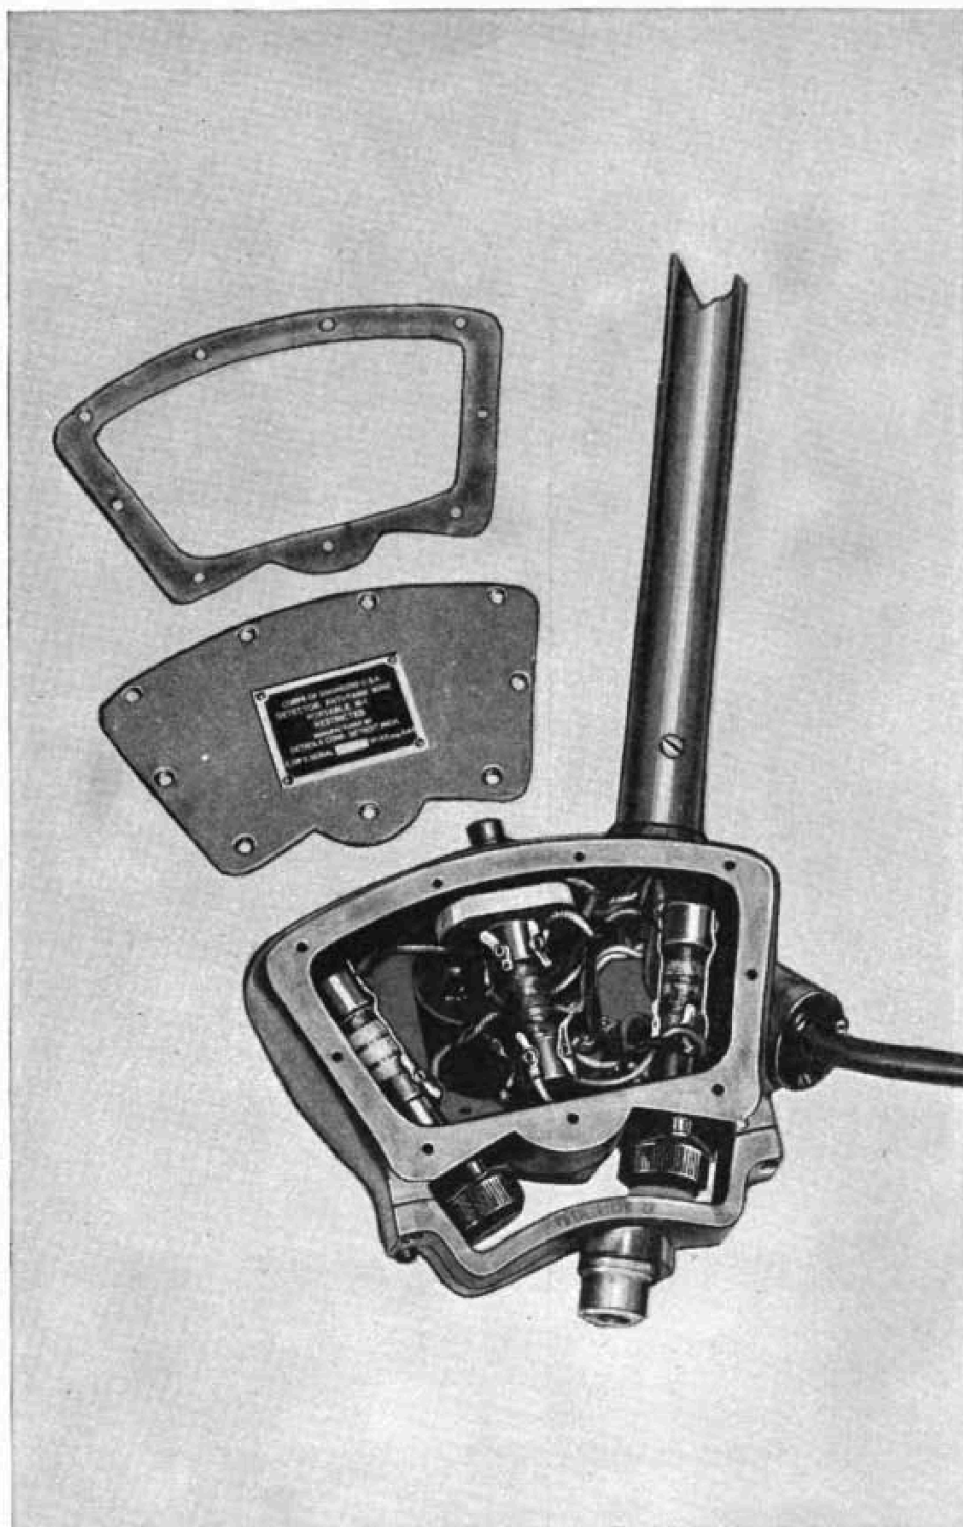
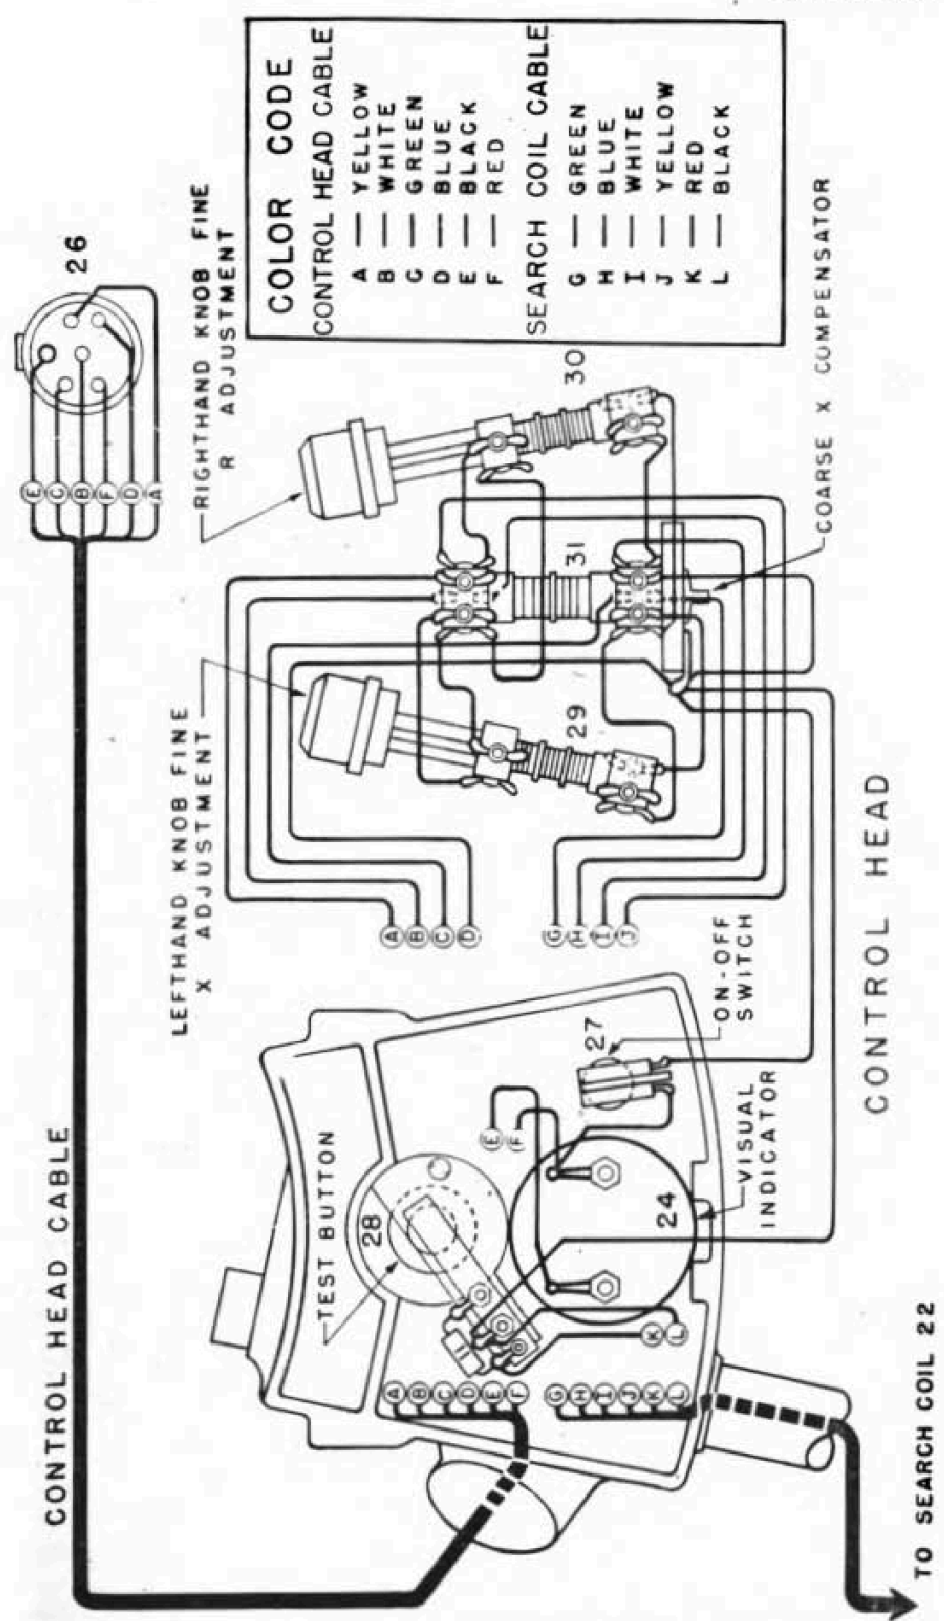

Fig. 15 Control Box BC-1140-(*), Bottom Cover Removed
Fig. 20 Control Box BC-1140-(*), Wiring Diagram
(3) Unsolder the four wires coming in through the back of the control box and going to the terminal lugs on the coil (31).
(4) Unsolder the two wires going to the terminals on switch 28.
(5) Detach the search-coil assembly from the control-box assembly by loosening thumb nut 66c on the search-coil support and unmesh the bayonet joint separating the two assemblies.
(6) Unscrew the two screws holding the metal rod that serves as the control-box extension and pull off the rod, sliding it back on the cable.
(7) This exposes the cable clamp nut which should be unscrewed, allowing the cable to be pulled out of the control box.
(8) Slide the clamp nut, packing ring, washer, and metal rod off the cable, completing the removal of the search-coil.
(9) Secure a new search-coil and thread the cable through the rod, starting from the end with the thumb nut (66c).
(10) Push the cable through the clamp nut, metal washer, and packing ring and into the control box leaving about four inches of wire protruding inside.
(11) Slide the extension rod up onto the projection of the control box and fasten in place with the two screws.
(12) Twist together the pairs of red and black, blue and white, and yellow and green wires.
(13) Thread the twisted wires into the control box and solder them to the terminal lugs according to the wiring diagram. (Fig. 20).
(14) Push the coil back into place and replace the three screws.
(15) Replace rubber gasket, bottom plate, and screws.
b. To replace fine "X," or fine "R" coils.—(1) Detach bottom plate on the control box by unfastening the screws.
(2) Detach adapter 73 from the front of the control box by removing the four screws.
(3) Unsolder the wires from the terminal lugs of the coil.
(4) Unfasten the screws on top and bottom of control knob and pull the assembly forward and out of the case.
(5) Install the new coil and the gasket removed with the old coil.
(6) Solder the four wires on the new coil according to the wiring diagram, (Fig. 20).
(7) Replace the two screws fastening the coil to the control box.
(8) Replace the adapter in the original position.
(9) Replace the rubber gasket, bottom plate and screws.
c. To replace coarse compensator.—(1) Detach bottom plate on the control box by unfastening screws.
(2) Remove the three screws on the back of the control box and pull the middle coil into a vertical position.
(3) Unsolder the wire or wires from coil, one terminal at a time, and solder them on the corresponding terminal of a new coil. This method will prevent any errors in wiring. If possible, tag each wire and its corresponding terminal.
(4) Place the coil in the control box and replace the three screws.
(5) Replace the rubber gasket, bottom plate, and screws.
d. To replace output meter.—(1) Detach bottom plate on the control box (fig. 15) by unfastening screws.
(2) Remove the two terminal lugs on the back of the meter, by removing the nuts and lockwashers.
(3) Remove the front cover (72) on the control box by unfastening the four screws around its edge.